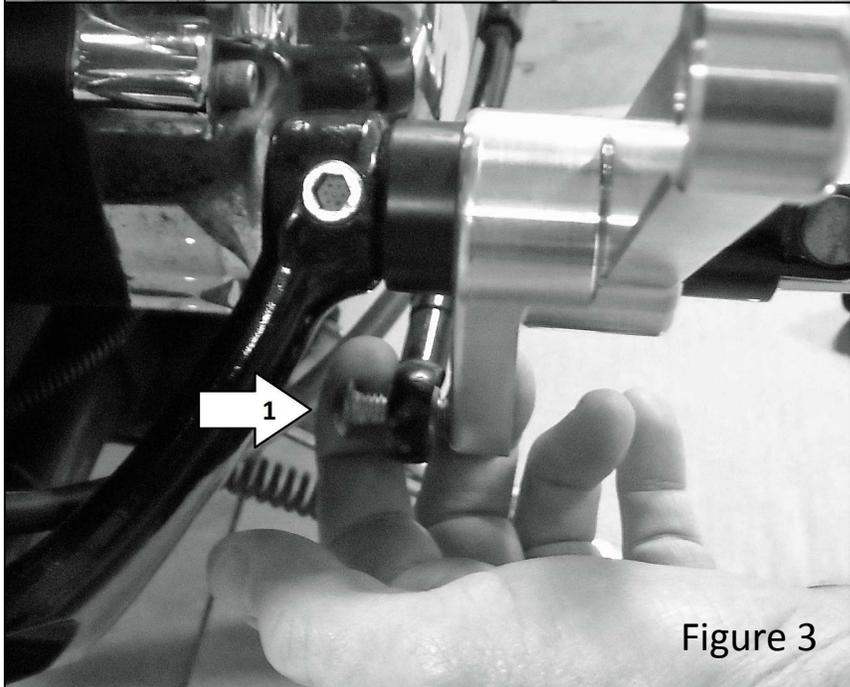
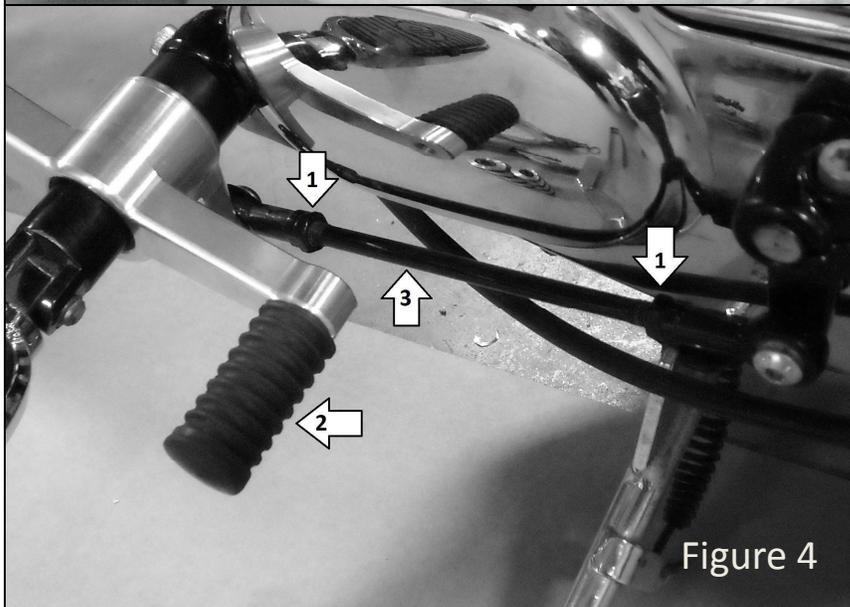

Figure 3
Figure 4
4. Insert the Rod Bolt (Figure 3 item 1) from the back side of the Shift Lever as shown in Figure 3. After final test fit use **Blue Loctite®** on this bolt to help prevent it from loosening during operation.
5. You can adjust the toe and heel height if desired. This is done when you change the length of the Shift Rod (Figure 4 item 3). To do so you will need to remove the Rod Bolt first (Figure 3 item 1) then rotate one or both Shift Rod Ends (Figure 4 items 1). Be sure that the Shift Rod does not interfere with the movement of the heel portion of the lever. Once in the desired location remember to tighten the Lock Nuts on the Shift Rod (Figure 4 items 1).
6. Install shifter pegs per manufacturers instructions (Figure 4 item 2).